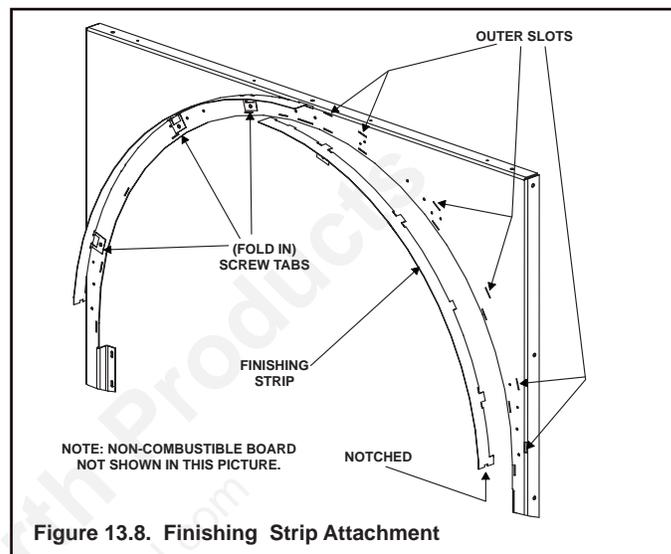

Figure 13.8. Finishing Strip Attachment
3. Finishing Strip Attachment: With the notched end of the finishing strip in the lower position, insert tabs into outer slots. Secure with six screws total, three on each finishing strip (see Figure 13.8).